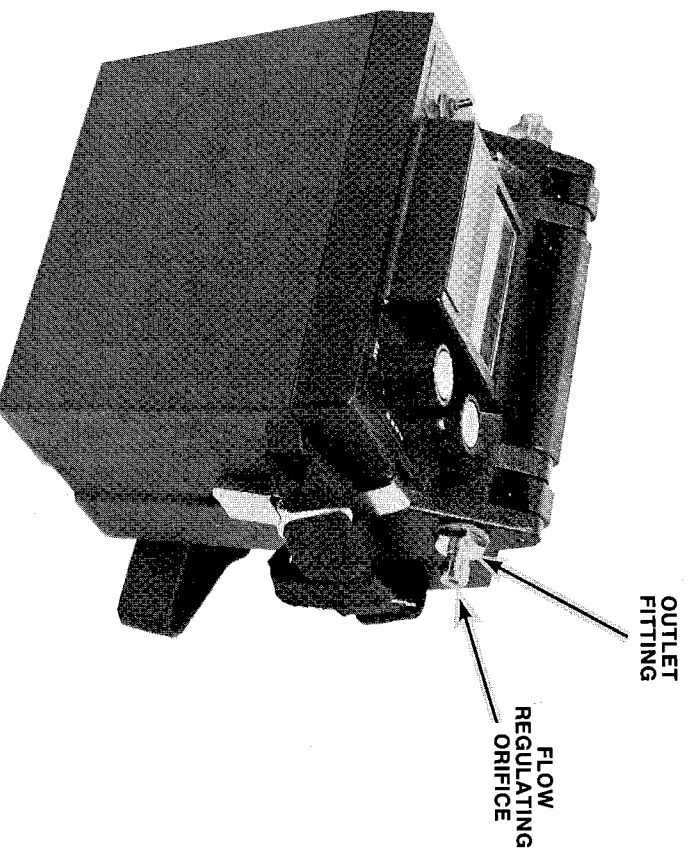

Figure 4-3. Removal of Flow Regulating Orifice
1. Aspirate fresh air through instrument and disconnect the aspirator bulb tubing from the outlet fitting. Remove the flow regulating orifice, Figure 4-3.
3. Disconnect aspirator bulb tubing from outlet fitting and remove flow regulating orifice, Figure 4-3, from fitting to verify that it is open. If it is clogged, insert a No. 23 gauge (0.0225 in. diameter) wire through the opening.